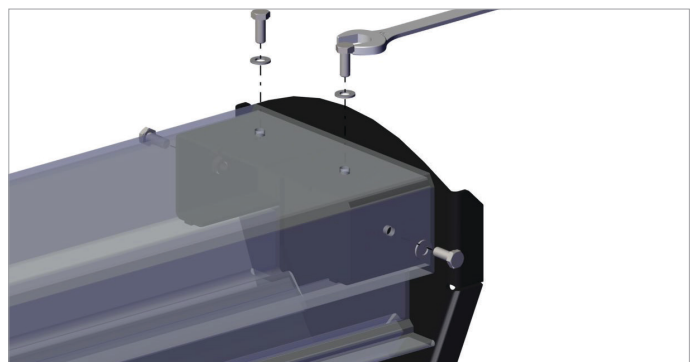

Fig. 6.3.5 Mounting the cover plate
- Mount the CRS cover plate to the other end of the rail, and secure with 4x M8x20 bolts and 4x M8 washers using wrench 13 (0,5 in.). Refer to fig. 6.3.5.